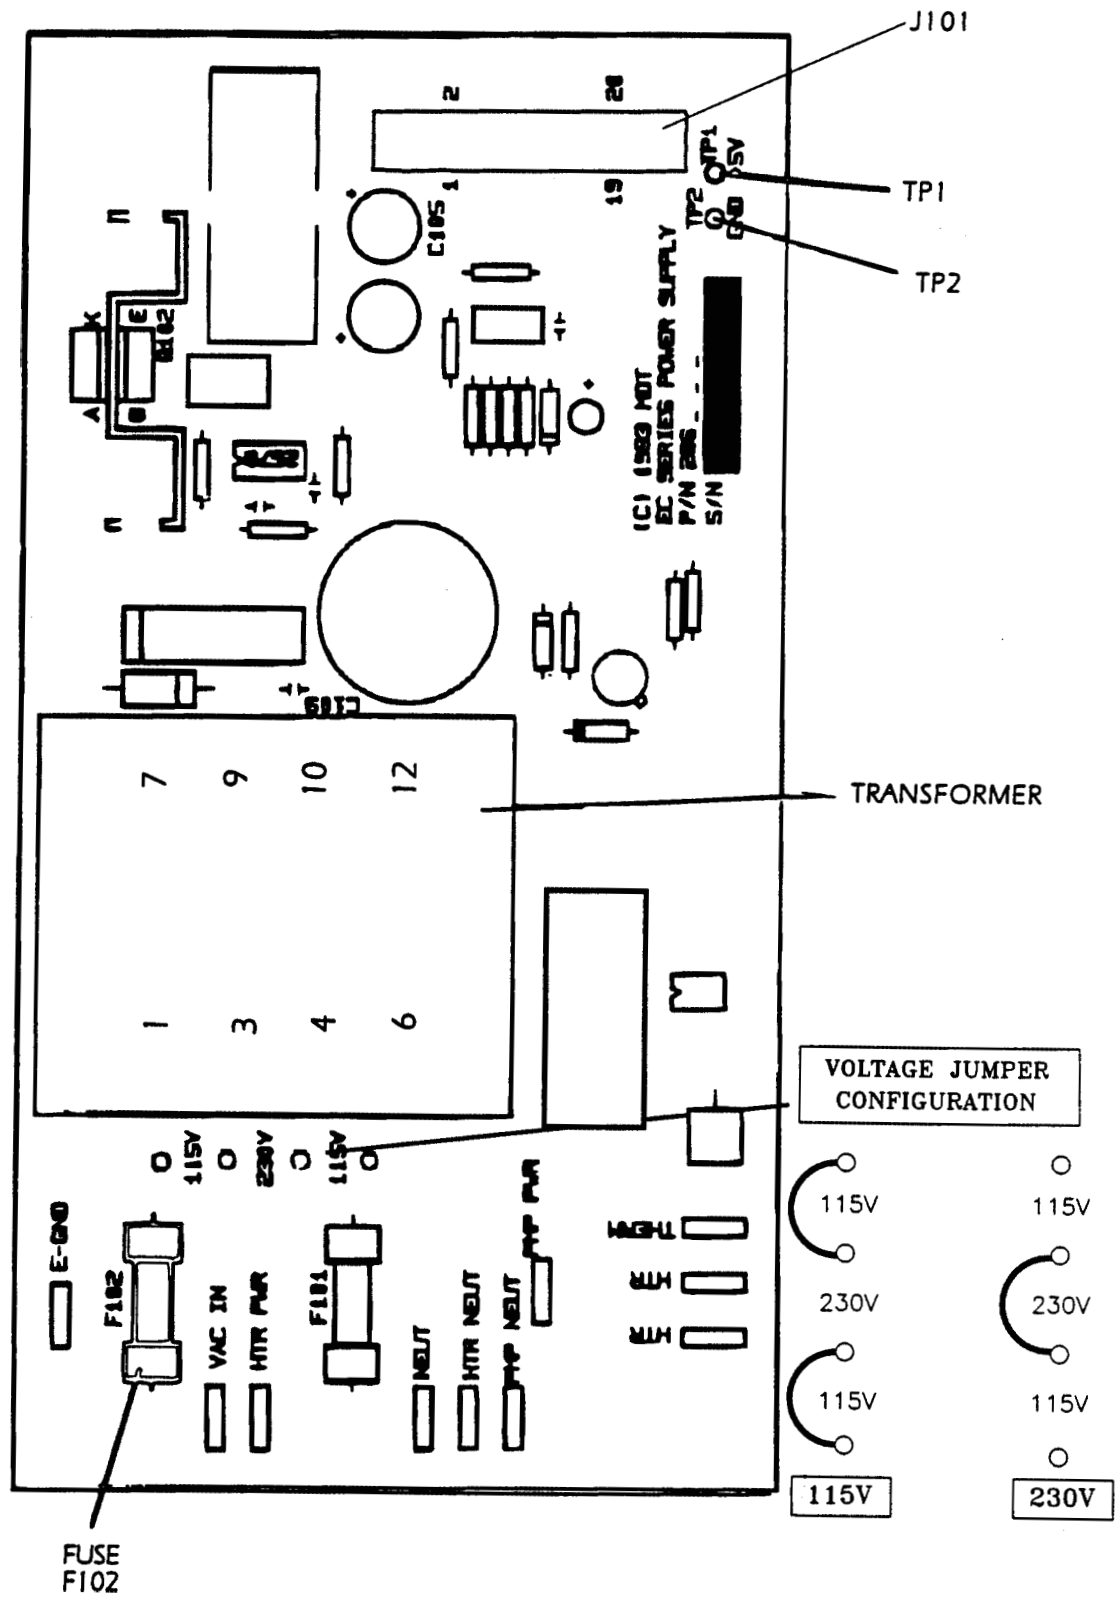

Figure 22: Power Supply Printed Circuit Board
(See Figure 22)
- Set the probes of a DC voltmeter across test points TP1 and TP2 (see Figure 22).